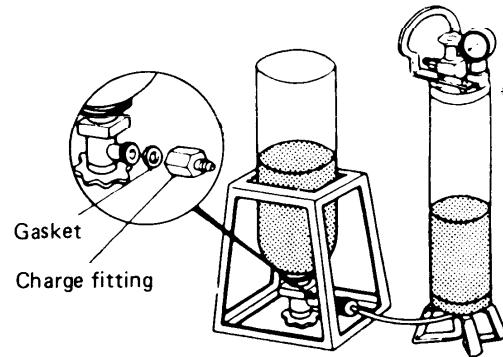

Fig. 26
- * If cylinder has not yet been filled, move at least one pound of refrigerant (R22) to the charging cylinder. Fig. 26